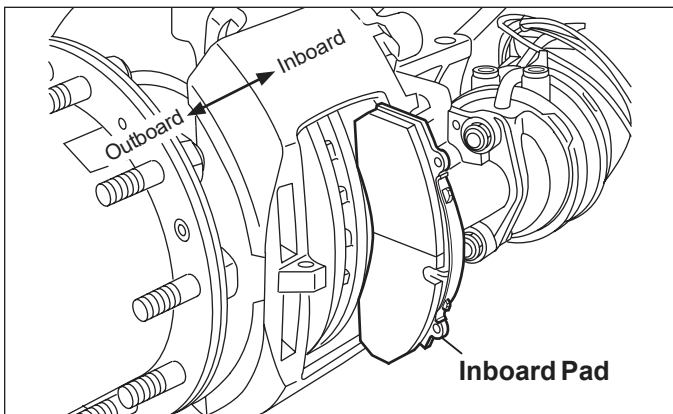

Figure 38 – Pad Removal
5.2.9 See Figure 38. Move the caliper fully inward and remove the inboard pad, then move the caliper fully outward and remove the outboard pad.